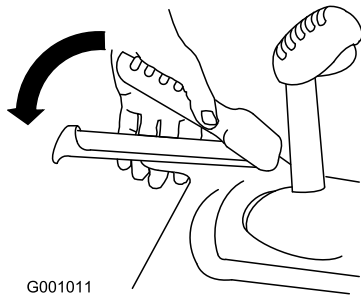

Figure 26
2. Engage the traction lever and hold it in place (Figure 26).